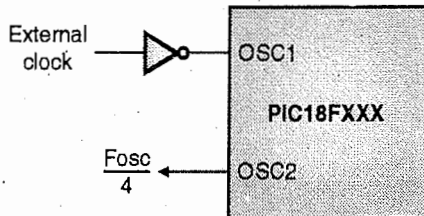

Fig. 4.13.4 : External clock for EC mode
- Fig. 4.13.4 shows the EC oscillator. It uses an external clock. In this mode the OSC1 pin is driven by CMOS drivers and at OSC2 pin the oscillator frequency is divided by 4 for testing and synchronization applications.